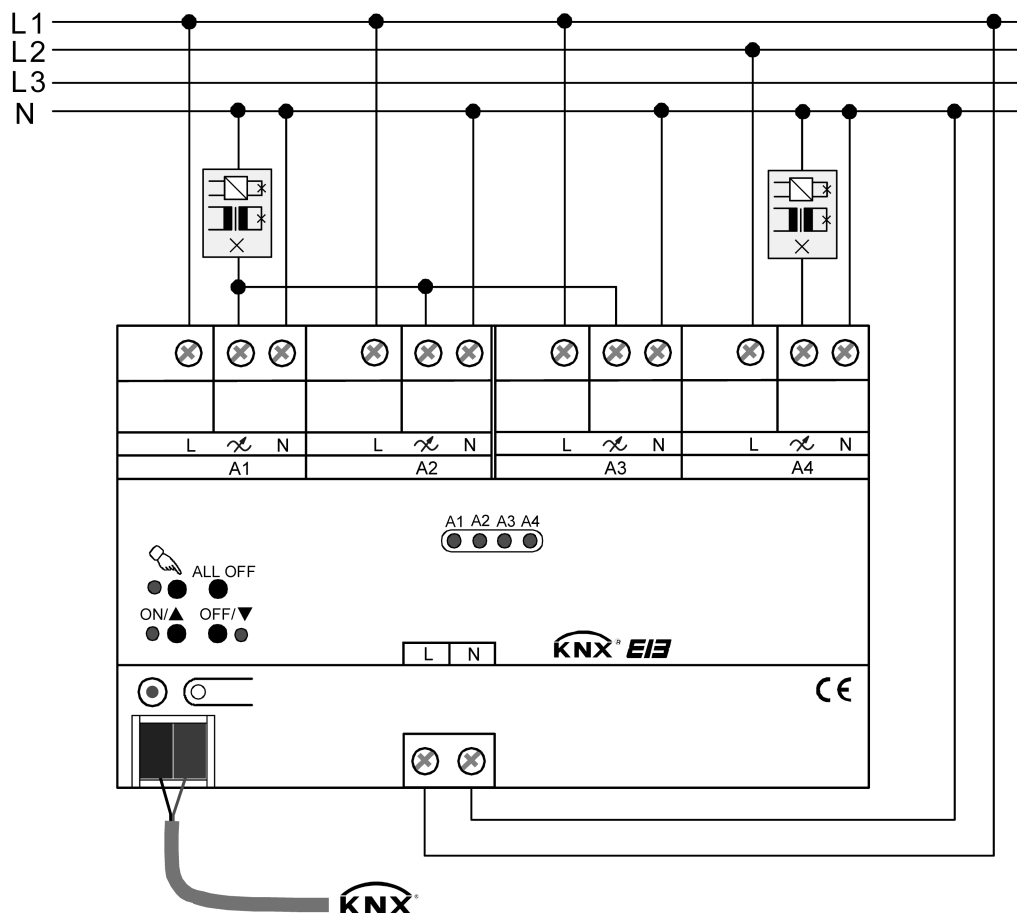

Figure 5: Electrical connection for parallel wiring of outputs (example)
- Wire the corresponding outputs in parallel according to connection diagram (Figure 5).